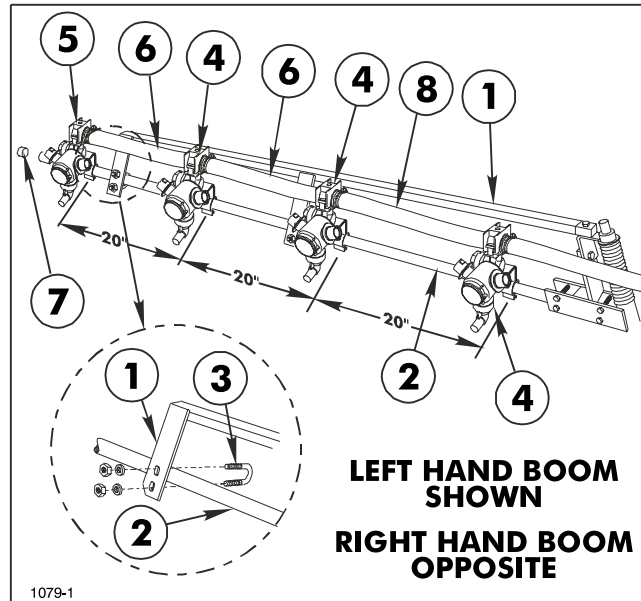

FIG. 8
17. Secure the two (2) plates of the Boom Support Assembly to the Extension Boom Pipe, using two (2) 1/4" U-bolts, four (4) lock nuts and flat washers. (See FIG. 8)
20. Attach three (3) Double Barb Turret Bodies and one (1) Single Barb Turret Body with Clamp Assemblies on each Extension Boom Pipe as shown in FIG. 8.
21. Level Nozzles and space 20" apart. Connect the Turret Body Assemblies with 3/4" x 19" Jumper Hoses and a 3/4" x 21" Jumper Hose. Secure with hose clamps. (See FIG. 8)